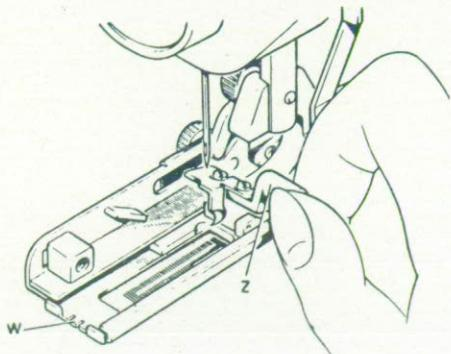

Fig. 71
- e) Turn cutter lever « Z » (fig. 71) and press slightly in order that cutter point enters the fabric.
Set the machine as indicated above. Operate as described under point a), then place the gimp thread astride on pin situated in rear end of buttonholing foot. Bring both ends of thread underneath base of foot and toward you, then insert them, pulling both threads upwards, into the slots « W » (fig. 71) provided at the front end of the foot. Make sure that both threads are parallel under foot base.